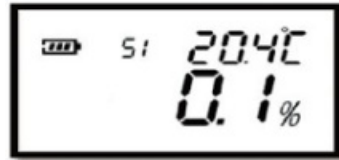

figure 10
- Press the READ key once and the sample reading will display on the screen (figure 10). Additional readings can be made by pressing the READ key again if desired.